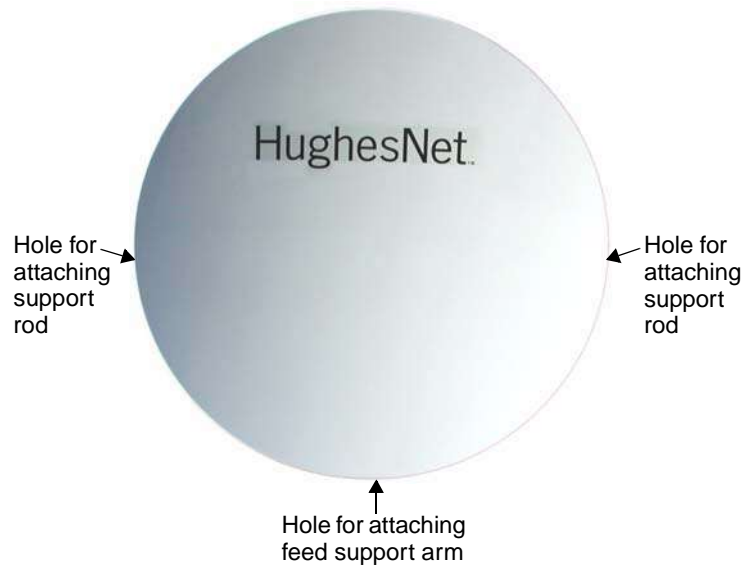

Figure 14: Reflector in correct position for installation
1. Orient the reflector so the HughesNet logo on the front is near the top, as shown in Figure 14.